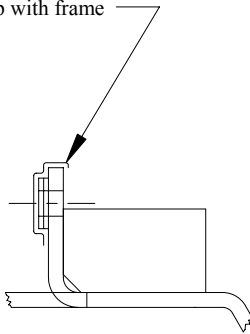

Figure 2
①	Qty. (4)	Carriage Bolt 1/2 x 1 1/4	⑤	Qty. (2)	Hex bolt 1/2 x 1 1/4
②	Qty. (4)	Block 1/4 x 1 1/2 x 2"	⑥	Qty. (2)	Lock washer 1/2"
③	Qty. (4)	Conical Toothed washer 1/2"	⑦	Qty. (4)	Flat washer 1/2"
④	Qty. (4)	Hex nut 1/2"	⑧	Qty. (2)	Handle nut assembly
- Detach (5) rubber exhaust hangers and lower rearward portion of exhaust system.
- Raise hitch into position and check side-to-side clearance with frame. Tape 1/2" washers to hitch as necessary to eliminate gap (see figure 2).